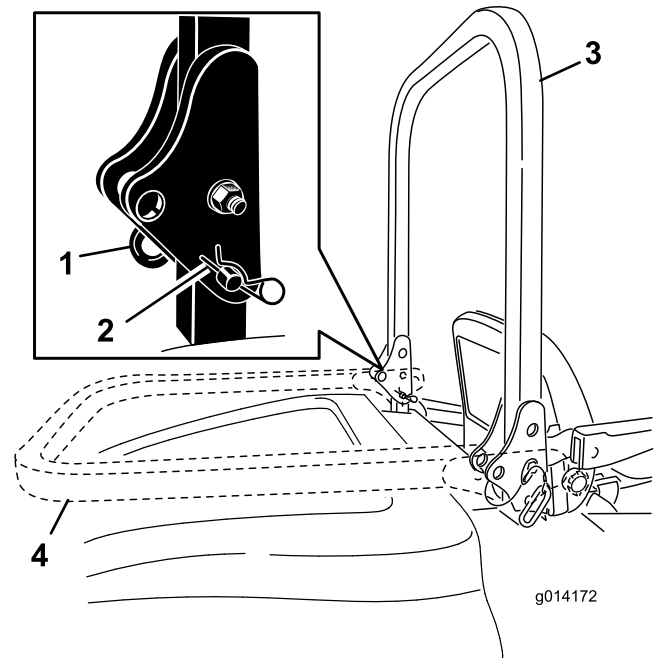

Figure 10
1. To lower the roll bar, remove the hairpin cotters, push the roll bar forward against the springs, and remove the two pins (Figure 10).
2. Lower the roll bar to the down position (Figure 10).
3. Install the two pins and secure them with the hairpin cotter pins (Figure 10).
4. To raise the roll bar, remove the hairpin cotter pins and remove the two pins (Figure 10).
5. Raise the roll bar to the upright position and install the two pins and secure them with the hairpin cotter pins (Figure 10).